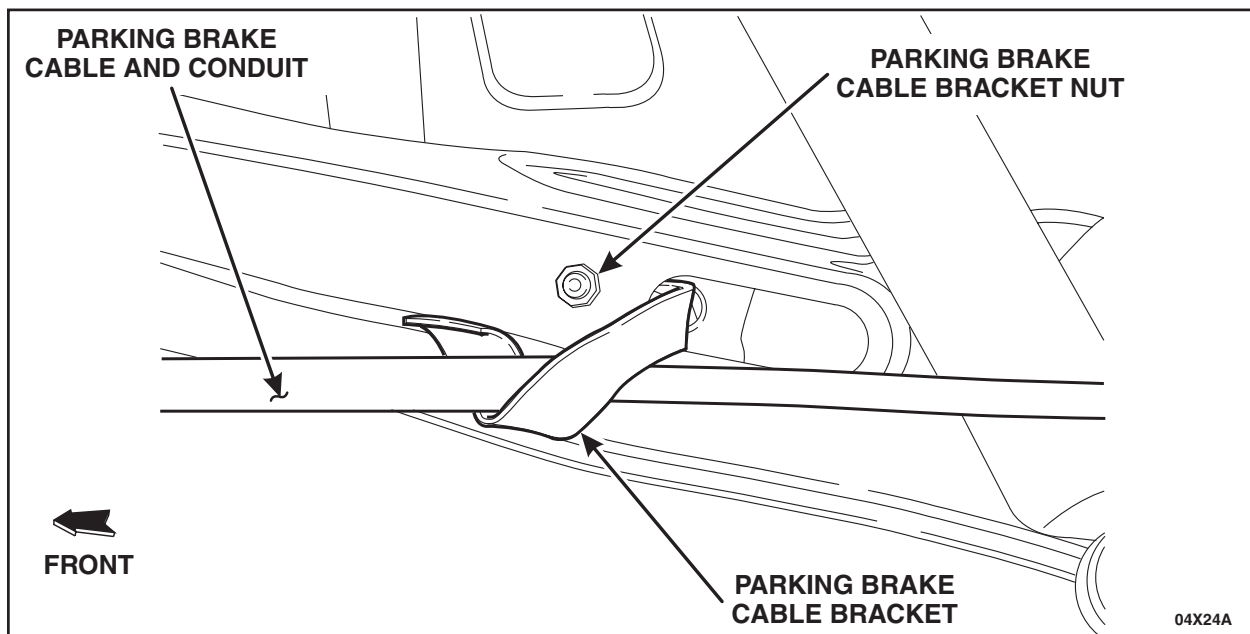

FIGURE 1
2. Remove the parking brake cable bracket nuts and position the parking brake cable brackets aside. See Figure 1.